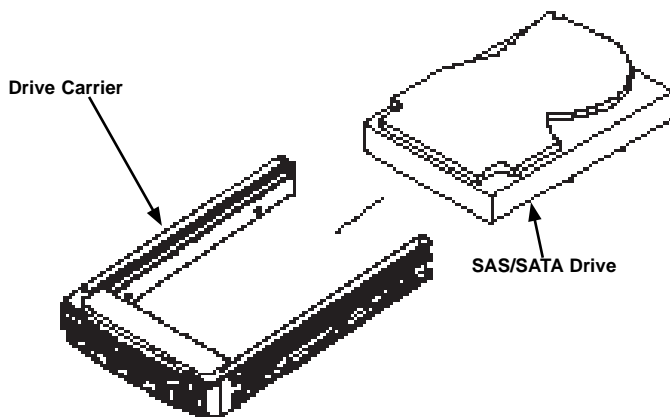

Figure 6-11. Installing the Hard Drive
4. Place a hard drive in the drive carrier (Figure 6-11).